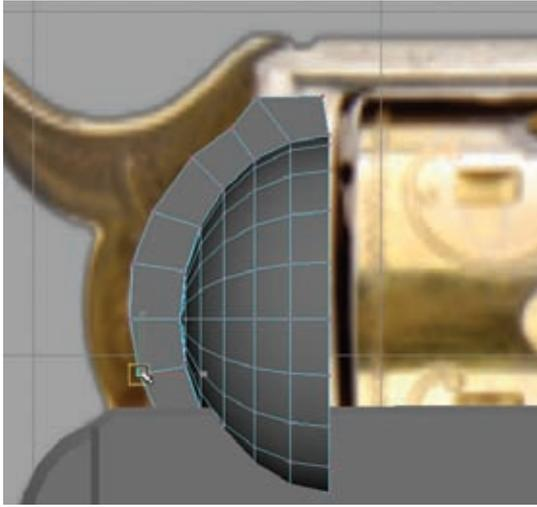

Figure 3.27
7. Return your focus to the rounded part of the frame near the hammer. Select the faces running down the rounded hammer side (that you created with the Bridge command earlier). Deselect any that were accidentally selected or that are hidden from view. With the visible faces selected, select the Front view and extrude them outward until they match the depth of the reference image. Edit the extruded faces' vertices to more closely match the roundedness of the reference as in Figure 3.27.